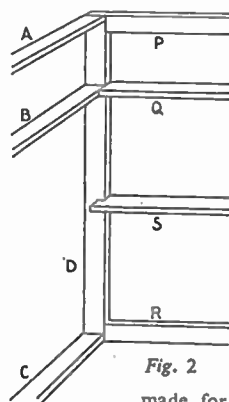
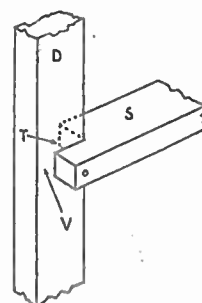

Fig. 2
Fig. 3
The member (S) is cut differently, as will be seen from Figs. 2, and 3. It is cut longer than (P), (Q) and (R) and a piece is cut out at each end to form shoulders. The front and back vertical members (D), sit in these shoulders. The exact size of the cut-out will have to be ascertained from the particular size (section) of (D) used. Note that the length (T) (Fig. 3) must not come to the front of (D). It must leave sufficient space (V) for the door of the cupboard to sit in.
When both sides are attached, take the two cross-battens (S) (Fig. 2) and with glue and nails fix into position.